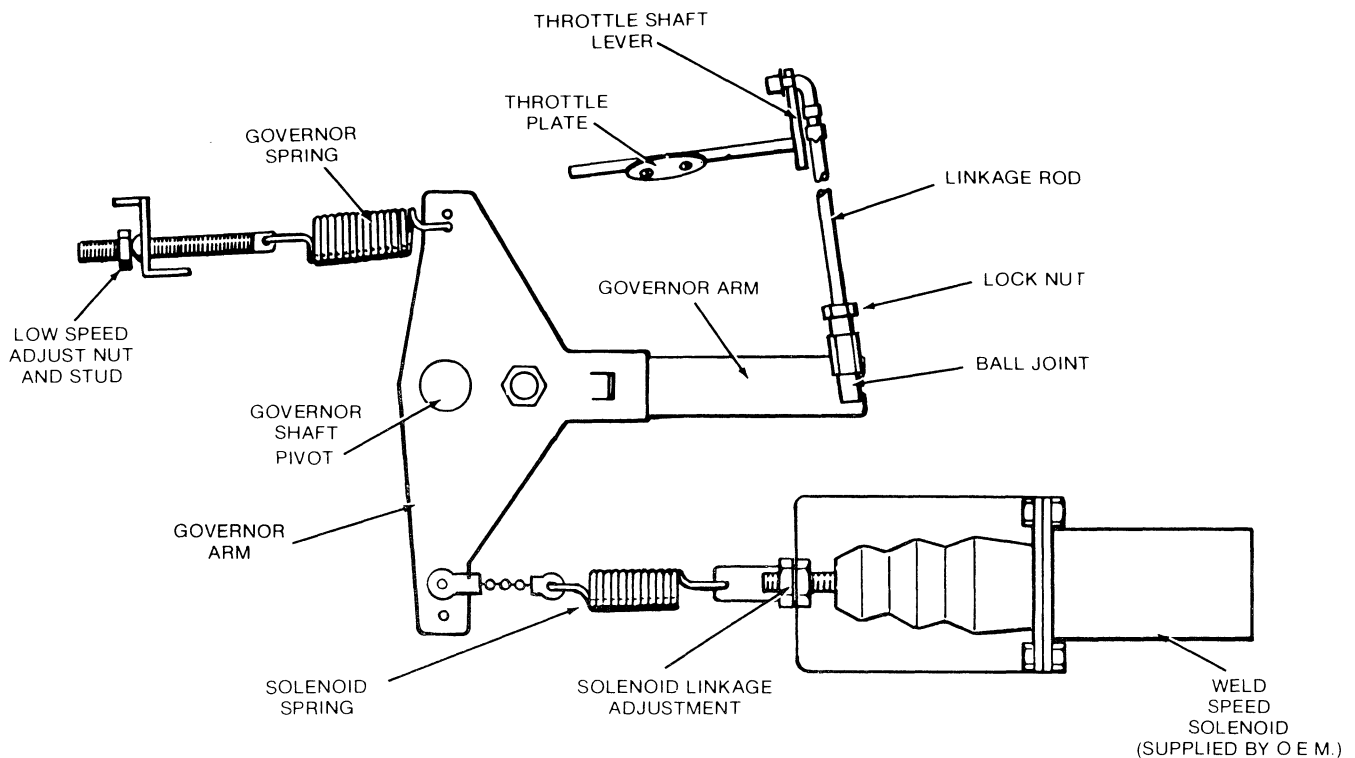

FIGURE 7. TWO SPEED GOVERNOR MECHANISM
The governor linkage rod connects the governor arm (Figure 7) to the throttle shaft lever so they function properly when the engine starts and runs. The linkage rod is adjusted with the engine stopped and the throttle plate at wide open position. The engine will also crank and start in this condition. Adjust the linkage rod as follows:
If adjustment is needed, refer to Figures 7 and 9 and proceed as follows:
9. Adjust low speed nut (Figure 7) on governor spring for a stable no load engine speed of 1860 rpm on 60 Hz models and 1650 rpm on 50 Hz models.
1. Make sure governor linkage and speed adjustments are correct and governor spring is in hole nearest to governor shaft pivot. See Figure 7.
5. Adjust solenoid linkage (Figure 7) so that a full stroke of the energized solenoid operates the engine at 3000 rpm.